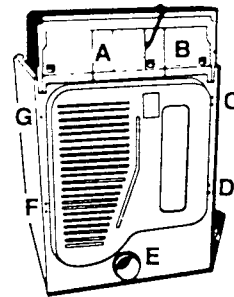

Fig. 47
2. Starting with screw (A) replace in order screws (A), (B), (C), (D), (E), (F) and (G) to secure the back panel of the dryer to the cabinet. (Fig. 47)